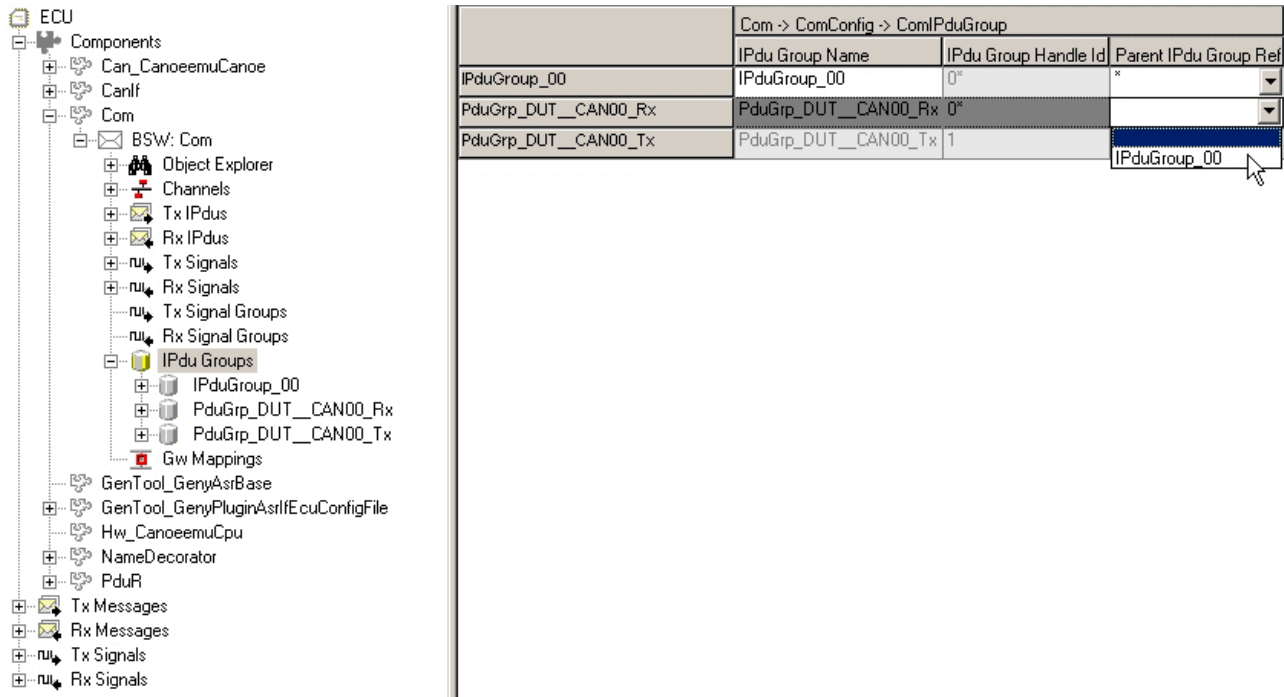

Figure 3-4 Configuration of I-PDU Group Hierarchy
- > An I-PDU group hierarchy can be configured by selecting the parent I-PDU group as shown in Figure 3-4 for an I-PDU group.